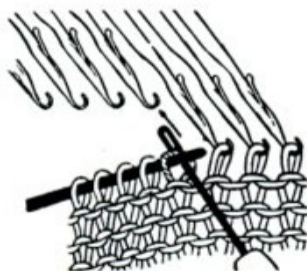

Fig. 54
- b. Transfer the stitch from the transfer needle onto the hook of needle in the knitter. (See Fig. 54)